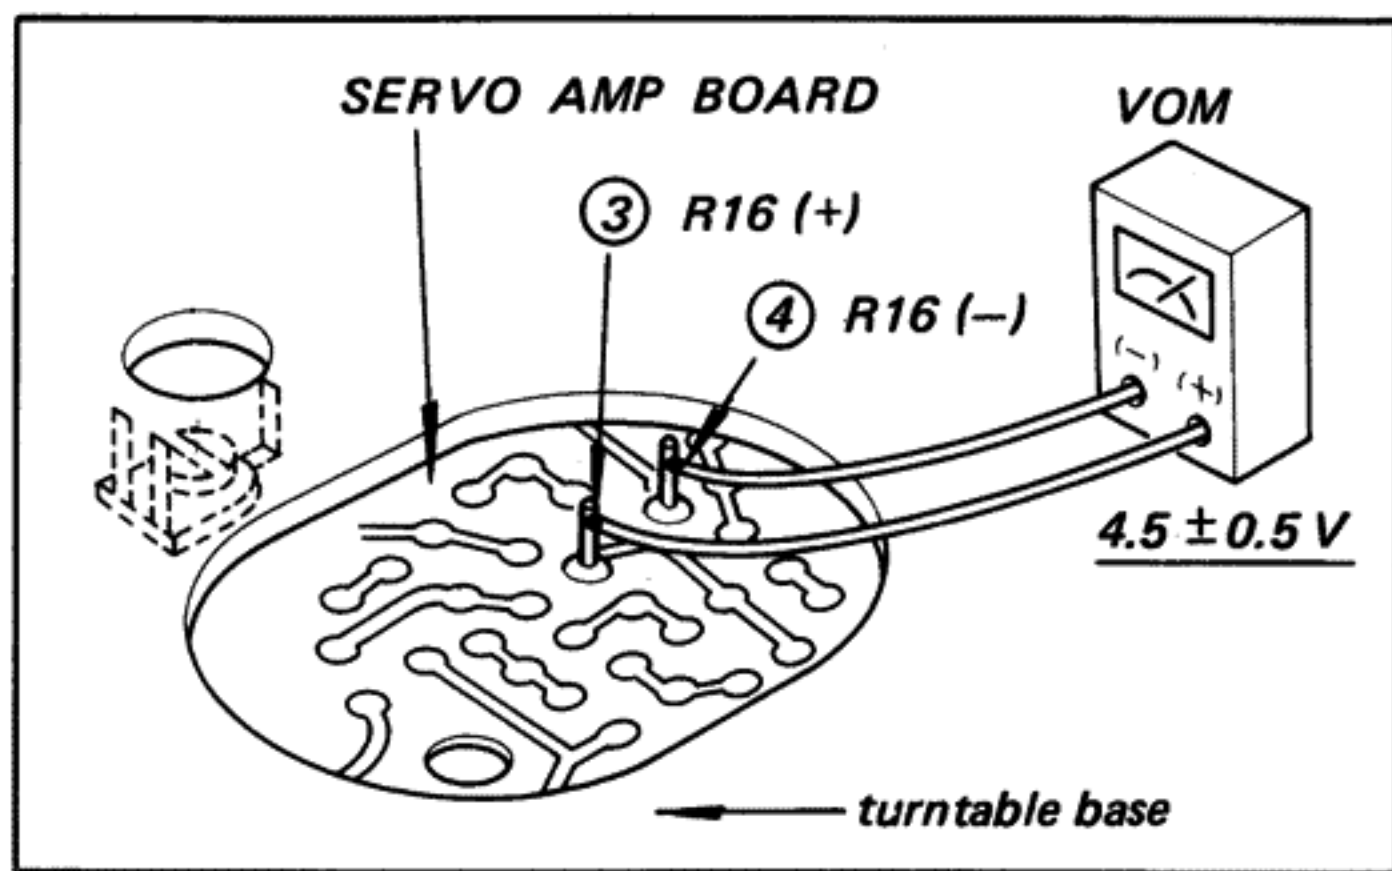

Fig. 3-12. Shutter position adjustment (1)
5. Connect the VOM across R16 ③ and ④ as shown in Fig. 3-12.